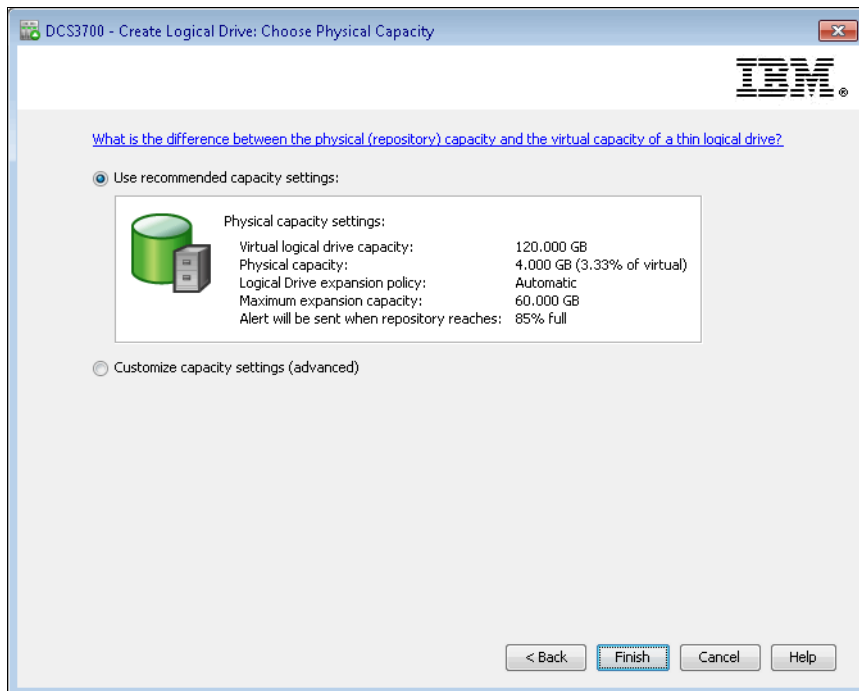

Figure 8-31 Thin logical drive recommended settings
- Use recommended settings: Click **Use recommended capacity settings**, as shown in Figure 8-31, and then click **Finish**.